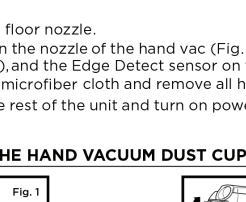

Fig. 3
2. Locate the Dirt Detect sensor in the nozzle of the hand vac (Fig. 1), the Light Detect™ sensor on the top of the nozzle (Fig. 2), and the Edge Detect sensor on the side of the nozzle (Fig. 3).